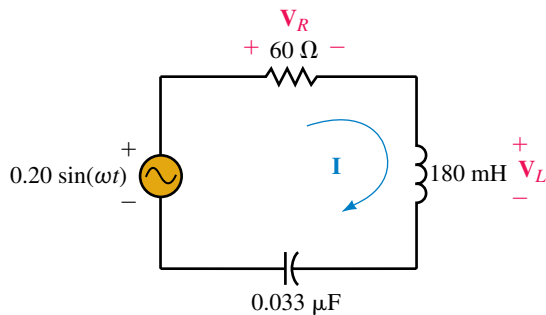

FIGURE 21-47
2. Refer to the circuit of Figure 21-47: